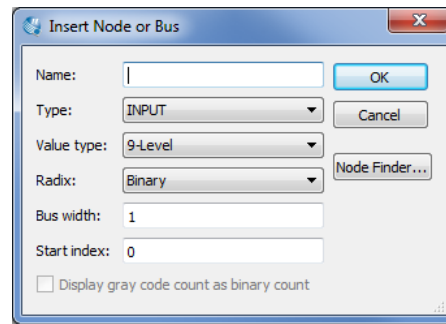
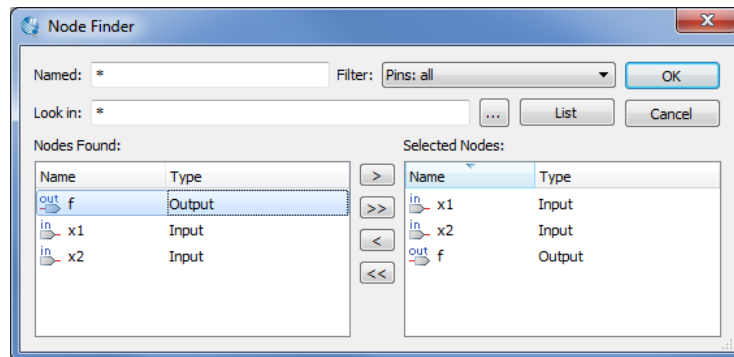

Figure 35. The Insert Node or Bus dialogue.
Figure 36. Selecting nodes to insert into the Waveform Editor.
3. Next, we want to include the input and output nodes of the circuit to be simulated. Click **Edit > Insert > Insert Node or Bus** to open the window in Figure 35. It is possible to type the name of a signal (pin) into the Name box, or use the Node Finder to search your project for the signals. Click on the button labeled **Node Finder** to open the window in Figure 36. The Node Finder utility has a filter used to indicate what type of nodes are to be found. Since we are interested in input and output pins, set the filter to **Pins: all**. Click the **List** button to find the input and output nodes as indicated on the left side of the figure.
Click on the *x1* signal in the Nodes Found box in Figure 36, and then click the > sign to add it to the Selected Nodes box on the right side of the figure. Do the same for *x2* and *f*. Click OK to close the Node Finder window, and then click OK in the window of Figure 35. This leaves a fully displayed Waveform Editor window, as shown in Figure 37. If you did not select the nodes in the same order as displayed in Figure 37, it is possible to rearrange them. To move a waveform up or down in the Waveform Editor window, click within the node's row (i.e. on its name, icon, or value) and drag it up or down in the Waveform Editor.